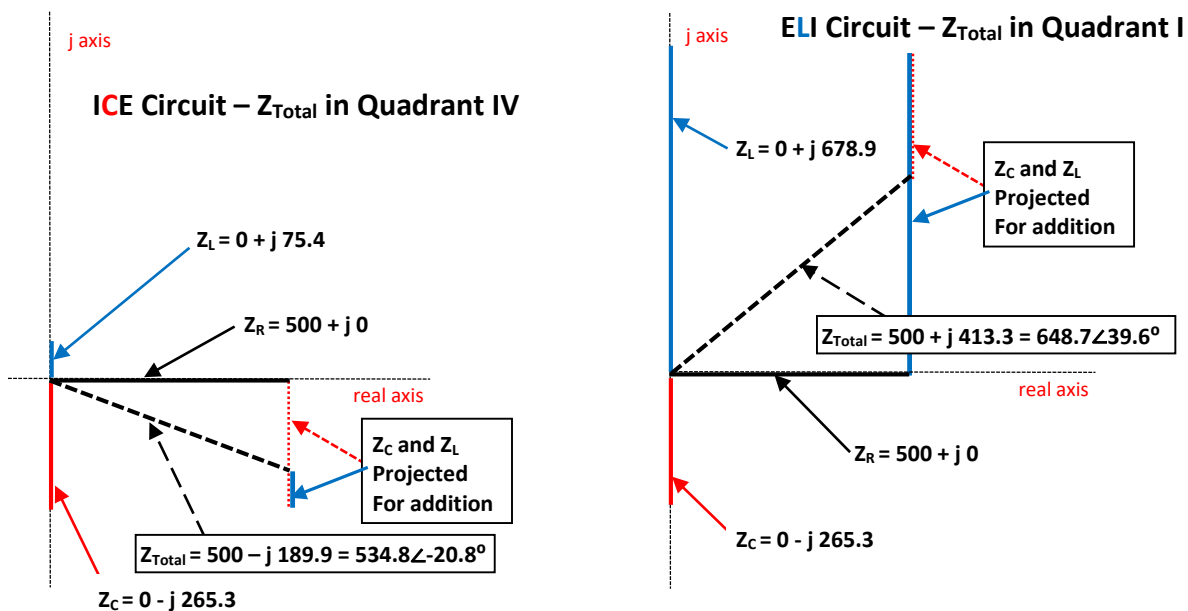

Figure 3.9: Impedance Plots for Example 3.4. Case 1:  $L = 0.2 \text{ H}$  (Left Plot), Case 2:  $L = 1.8 \text{ H}$  (Right Plot)
The phasors for the total impedance ( $Z_{tot}$ ) for each of the two cases ( $L = 0.2 \text{ H}$  and  $L = 1.8 \text{ H}$ ) are calculated in textbox in Figure 3.8. An impedance plot is performed in Figure 3.9 to help verify the total impedance was calculated correctly.
* Case 1: $L = 0.2\text{ H}$ , $Z_{\text{Total}} = 534.8 \angle -20.8^\circ$ (see Fig. 3.9)	* Case 2: $L = 1.8\text{ H}$ , $Z_{\text{Total}} = 648.7 \angle 39.6^\circ$ (see Fig. 3.9)